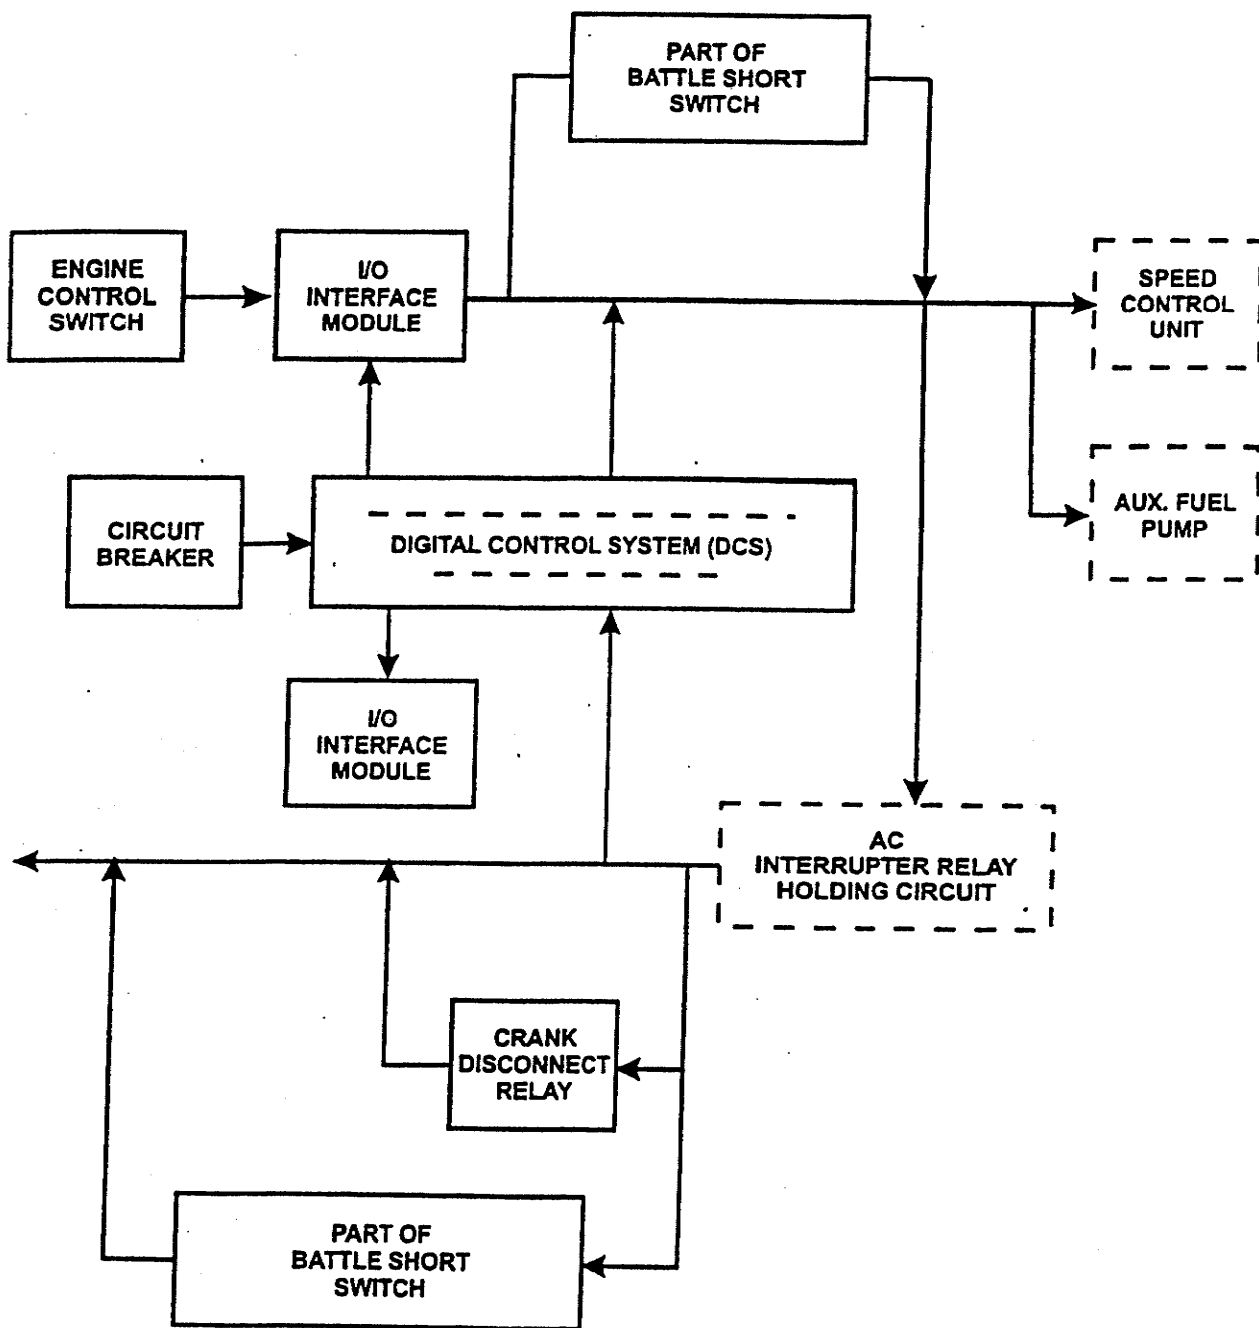

FIGURE 1-19. FAULT SYSTEM FLOW DIAGRAM
1.16.2.1 The Fault System (Figure 1-19) protects the generator set and any connected load against the potential faults described below and provides an indication of any incurred fault. The following summary of the Fault System will assist in understanding the operation of other generator set systems. Additional details relating to specific protection devices are provided in the descriptions of the respective systems.